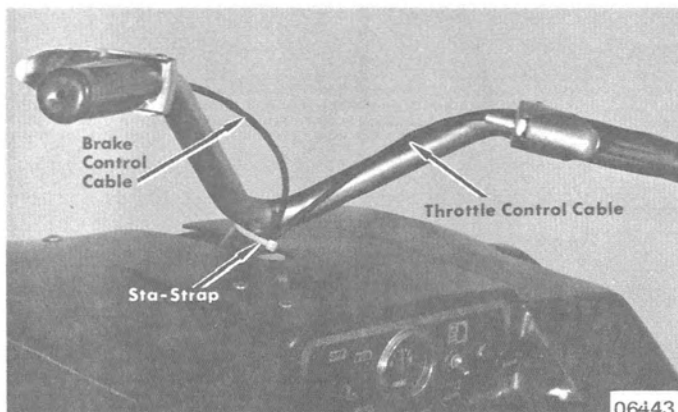

Figure 3. Sta-Strap Installed on Steering Post
- a. Fasten throttle and brake cables to steering post with one sta-strap, as shown in Figure 3.
Fasten throttle and brake cable to steering post with one sta-strap. (Figure 3)